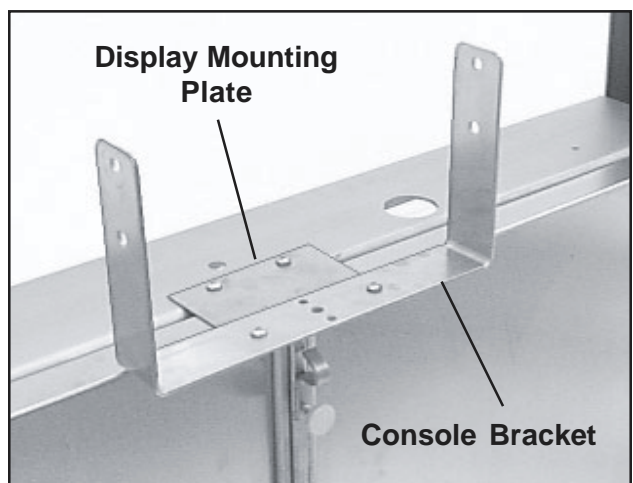

Figure 15. Mounting the Console Bracket on the Mounting Plate
2. With a Phillips screwdriver and a 3/8 in. wrench, mount the console bracket to the mounting plate with two 10-24 x .5" screws and locknuts (Figure 15).